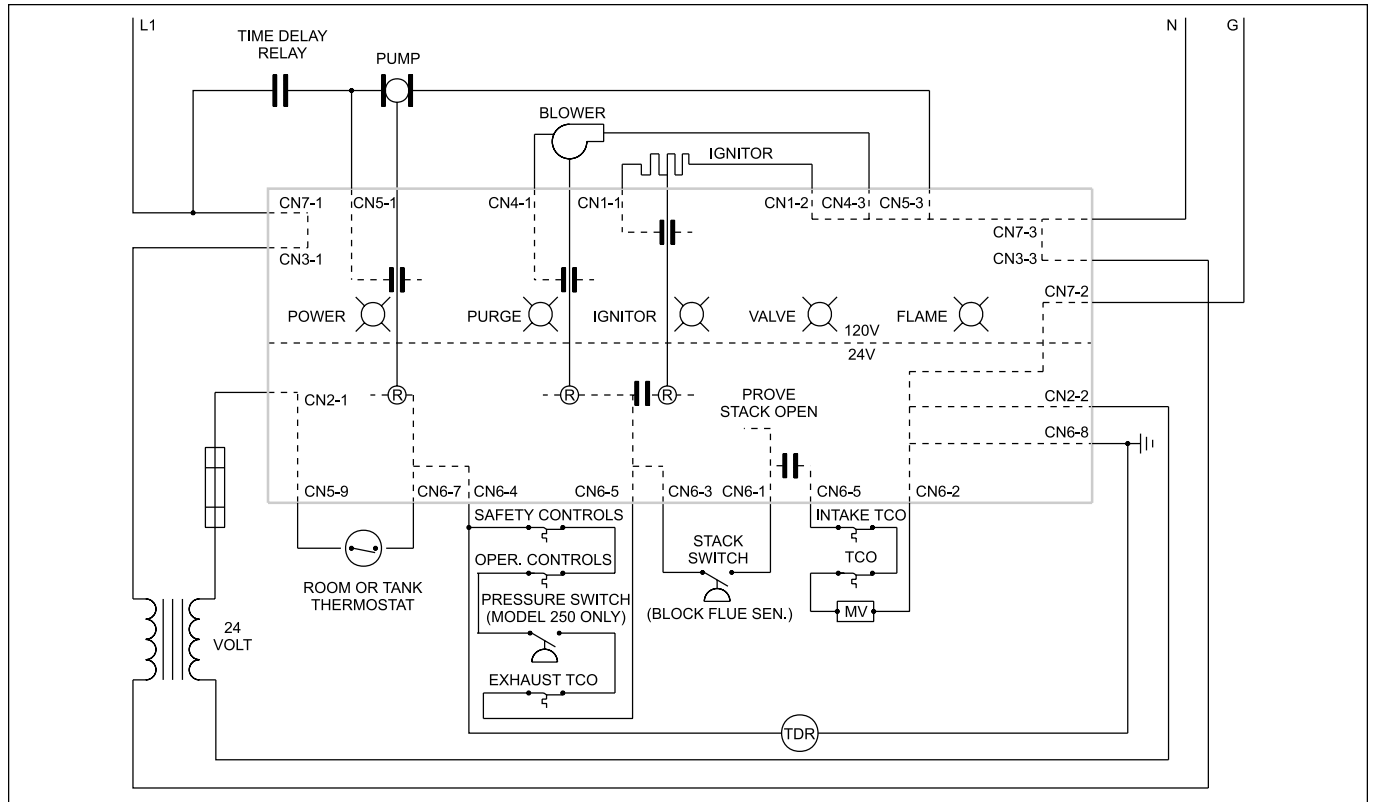

Figure 9. 9600 Ladder Diagram.
1. Close the gas cock or manual gas shutoff (see Figure 9) and shut off the main disconnect switch.